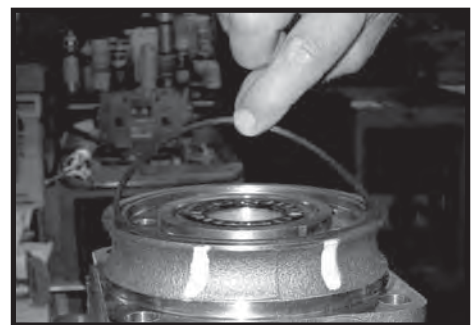

Figure 41
10. Apply a small amount of clean grease to a **new** seal ring (4) and insert it into the housing (18) seal ring groove. SEE FIGURE 41.